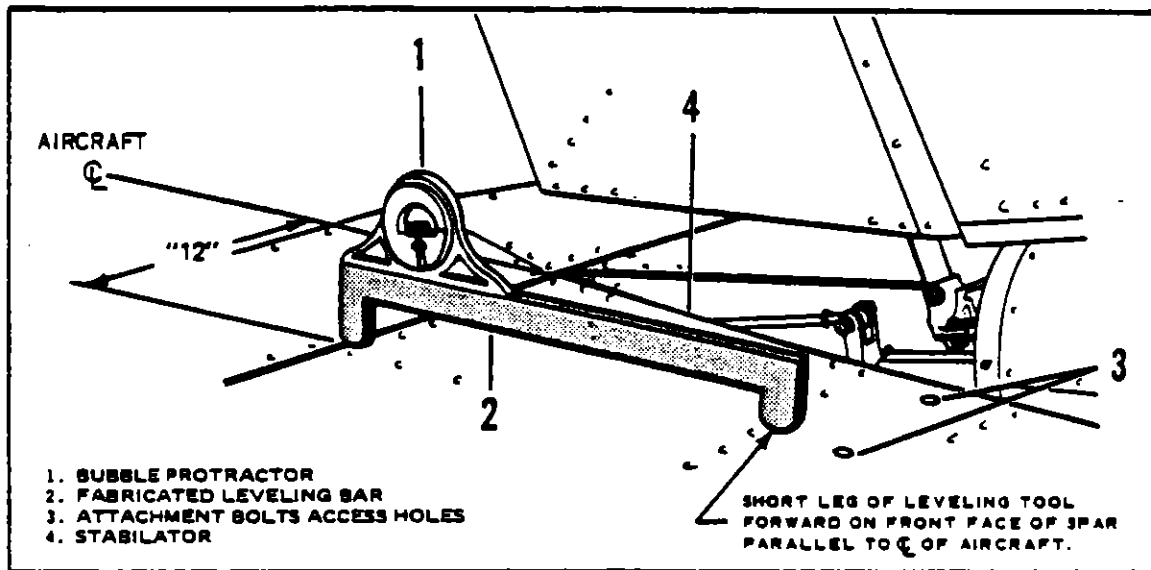
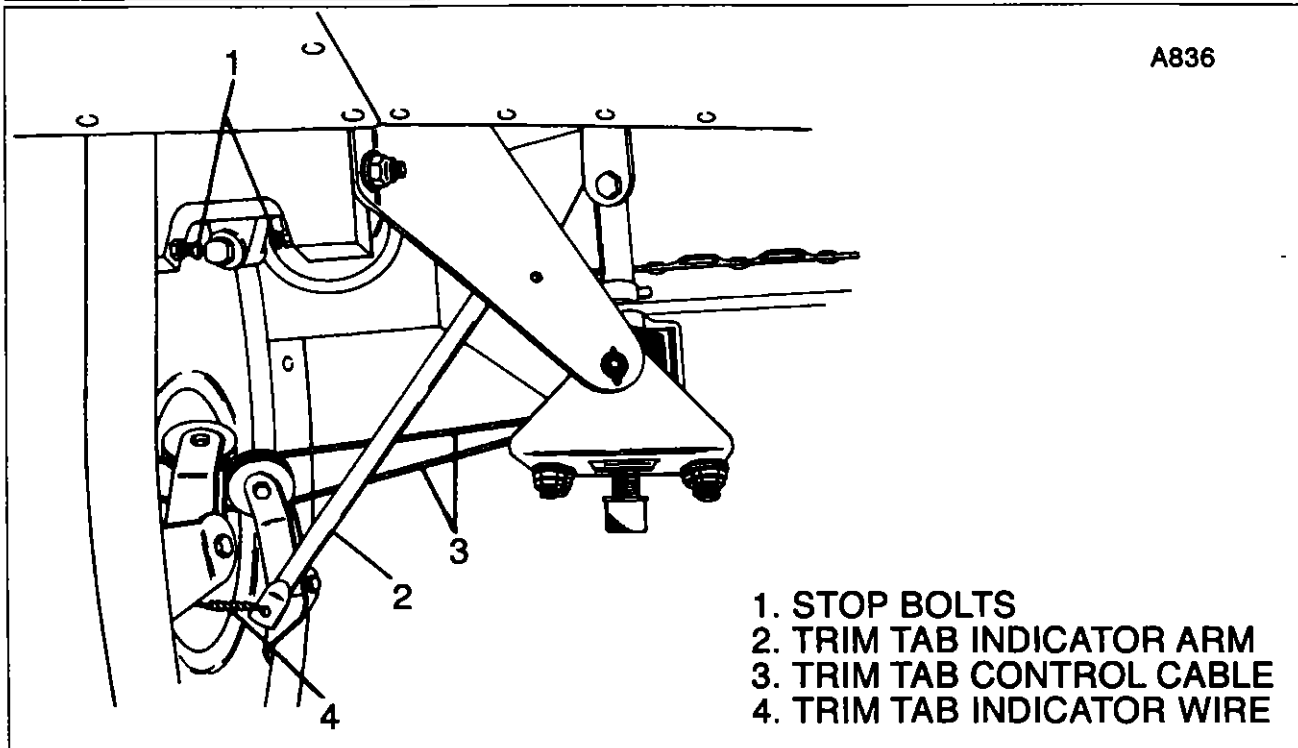

FIGURE 5-11. CHECKING STABILATOR TRAVEL
Figure 5-12. Stabilator Adjustment Point
b. With the aircraft level, determine the level position of the stabilator by use of a bubble protractor on a special leveling tool placed on the stabilator per dimensions in Figure 5-11. The leveling tool may be fabricated per dimensions given in Figure 5-13. Set the stabilator travel by adjusting the stop bolts at the torque tube horn (refer to Figure 5-12) and measuring the degree of travel with the bubble protractor on the leveling tool. Travel dimensions from level are given in Table V-1.